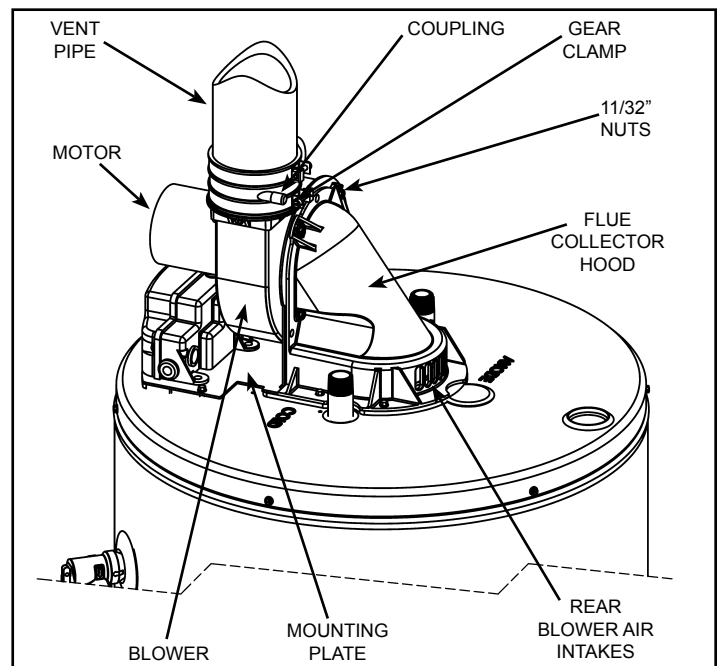

Figure 41
- Inspect the flue collector area for signs of corrosion (see Figure 41). This can be an indication of contaminated air, a wet environment, poor burner set up, or high levels of condensation occurring at the flue collector. Determine and correct any poor operating conditions.